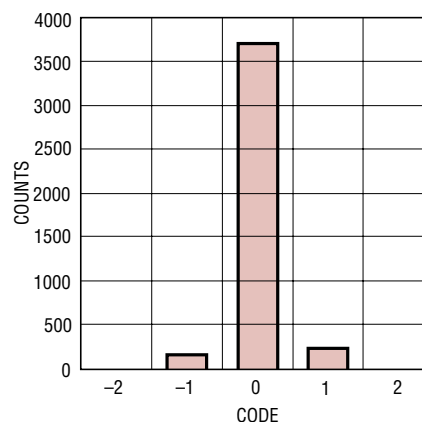

Figure 2. Histogram for 4096 Conversions
**Note 12:** Typical RMS noise at the code transitions. See Figure 2 for histogram.
One way of measuring the transition noise associated with a high resolution ADC is to use a technique where a DC signal is applied to the input of the ADC and the resulting output codes are collected over a large number of conversions. For example in Figure 2, the distribution of output code is shown for a DC input that has been digitized 4096 times. The distribution is Gaussian and the RMS code transition is about 0.33LSB.